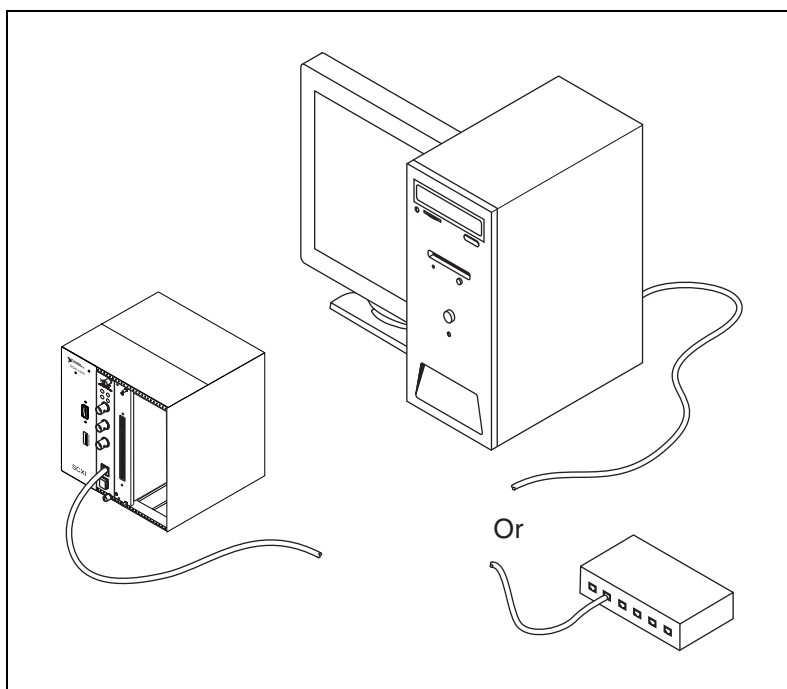

Figure 2-1. Cable between the SCXI-1600 and the Computer USB Port or USB Hub
| Figure 2-1. | Cable between the SCXI-1600 and the Computer USB Port or USB Hub | 2-1 |
- USB connector—This connector is used to communicate and transfer data between the computer and SCXI-1600 module. Figure 2-1 illustrates the connection requirements.